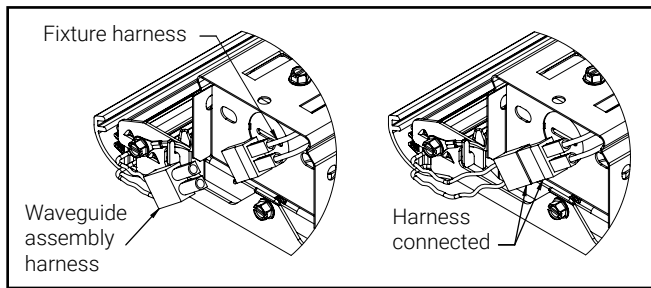

Figure 5
- Connect LED wire harness connectors together. (Figure 5)